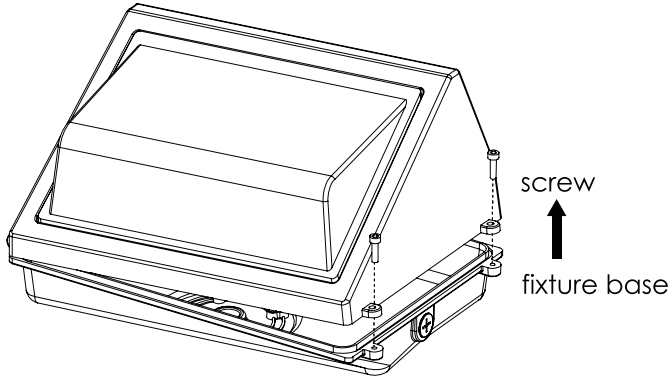

figure 1
Step 1 Open the cover by unscrewing the screws that are located on the side of the wall pack, then separate the male and female connectors. (figure 1)